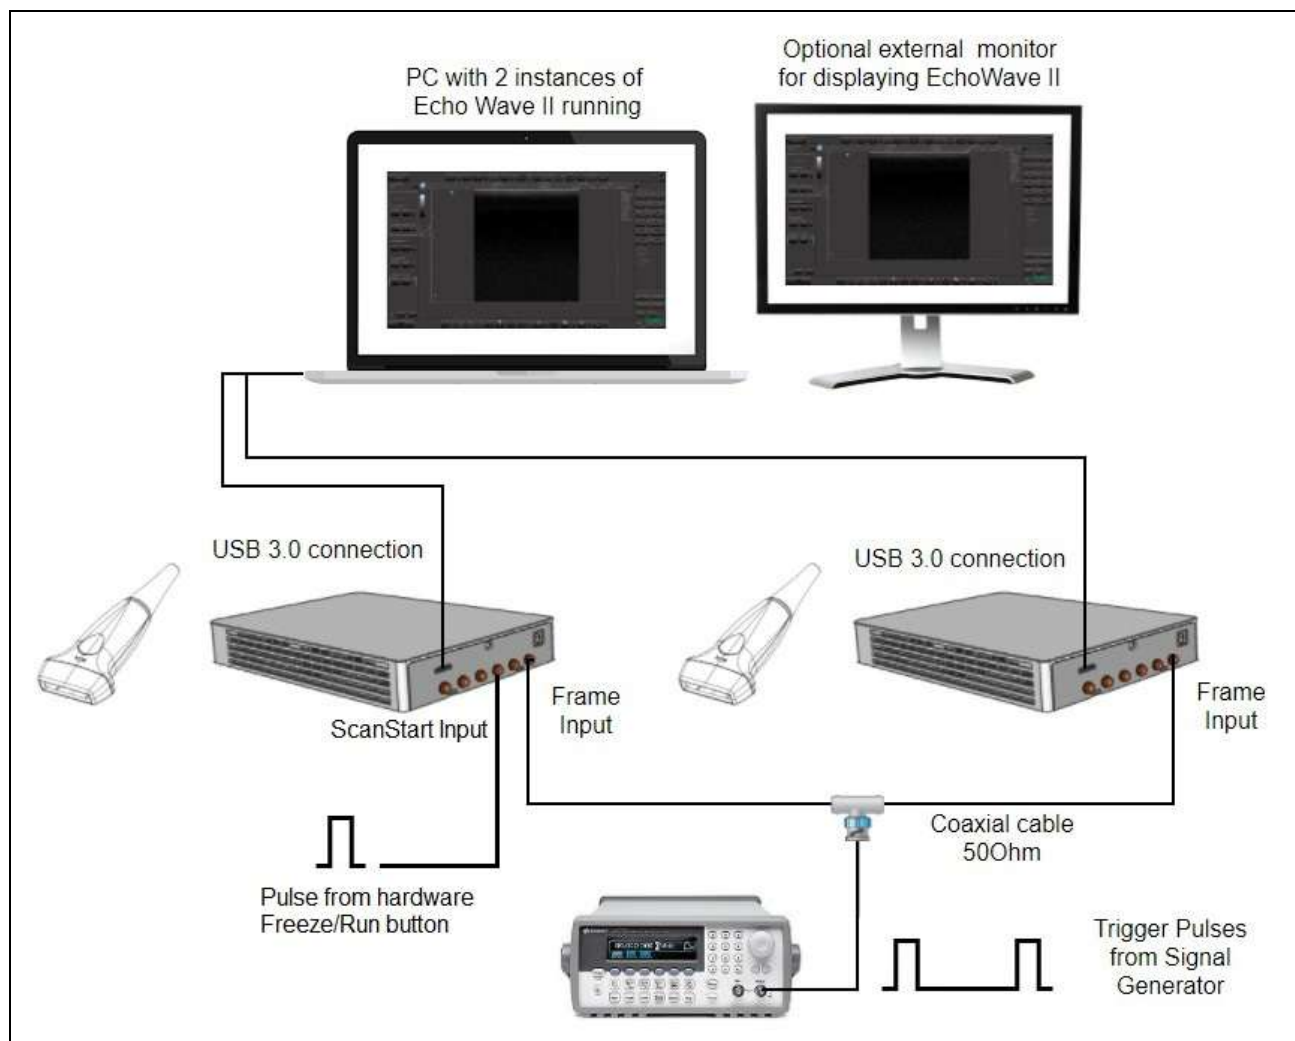

Figure 2 Twin ArtUs with a PC and optional external monitor (Frame Input)
3. Connect the hardware Freeze/Run button to the ScanStart Input of one of the ArtUs devices, as shown in Figure 2